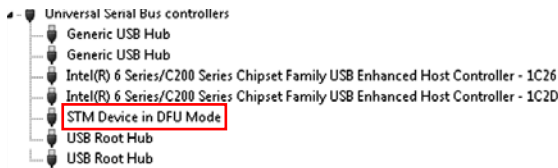

Figure 7. STM Device in DFU Mode Displayed
4. Go to **Device Manager > Universal Serial Bus controllers** and wait until the PC detects **STM Device in DFU Mode** (see Figure 7).